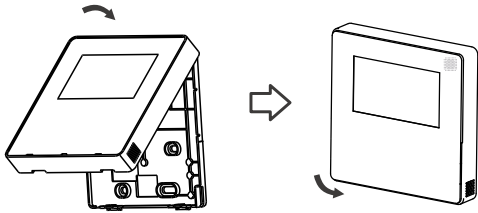

Fig 3-8
- After adjusting the upper case and then buckle the upper case; avoid clamping the wiring during installation. (Fig 3-8)